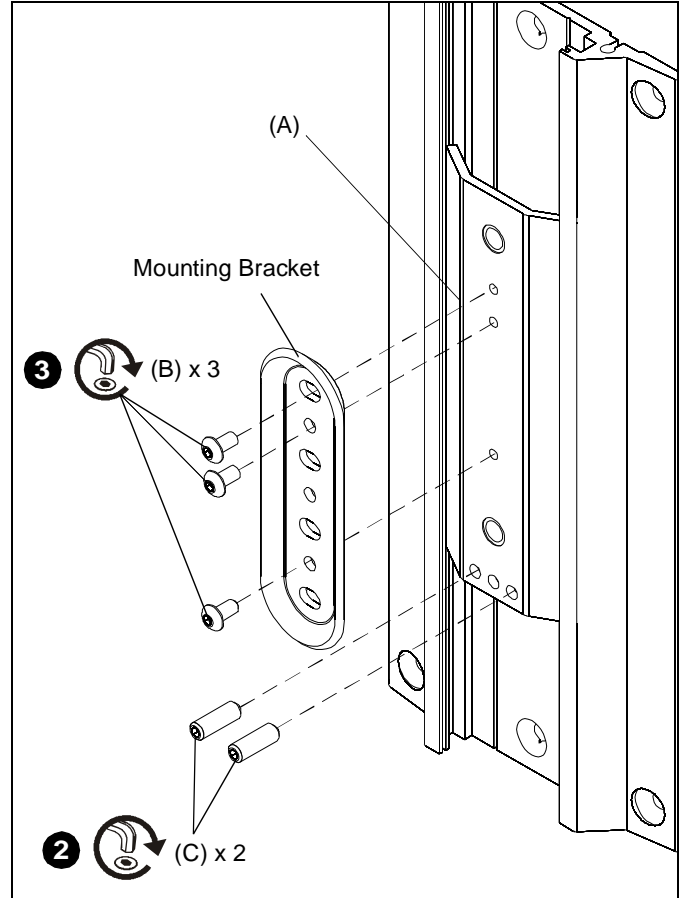

Figure 2
2. Secure OFB bracket (A) to wall track mount using two 1/4-20 x 3/4" set screws (C). (See Figure 2)
3. Secure mounting bracket to OFB bracket (A) using three 10-24 x 3/8" button head cap screws (B). (See Figure 2)